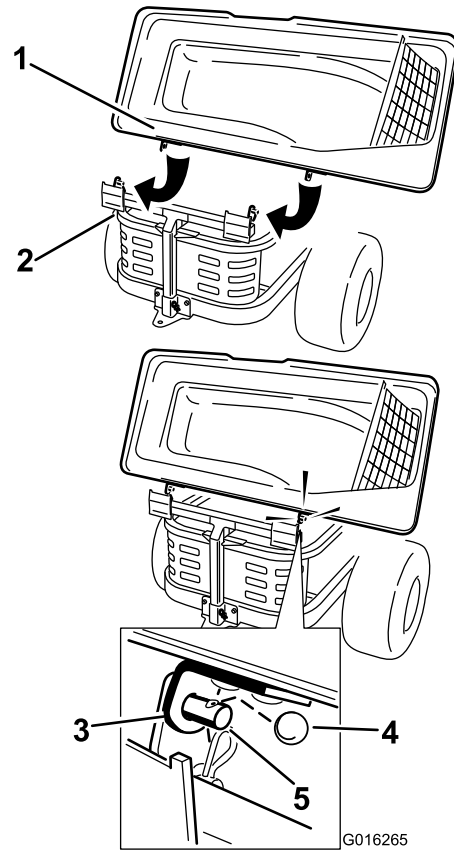

Figure 11
3. Slide the brackets over the posts in the bagger frame and install the circular cotter pin into the hole in the right hand post (Figure 11).